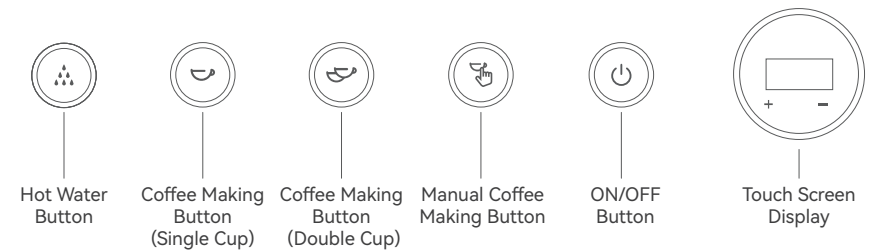

Figure 1
Under standby mode, press the power switch, and turn off the brew boiler, press and hold both the coffee making button (single cup), coffee making button (double cup) for 3 (Figure 1). After coffee making light (single cup), coffee making light (double cup), manual coffee making light, and hot water light flash simultaneously and the coffee machine will be restored to its default settings.
3. Press the ON/OFF button (Figure 1), the coffee machine will automatically fill with water and the sound of the water pump rotating can be heard;
Notice: When starting up for the first time, it is necessary to press the manual coffee making buttons on both sides (Figure 1) until there is water flowing out of the group head on both sides, otherwise it will burn out the heating tube;
1. When the steam pressure gauge reads more than 0 bar, press the hot water button (see Figure 1), and the machine will start timing. The hot water will flow out from the hot water wand. When the steam pressure gauge reads 0 bar, the water will be at room temperature;